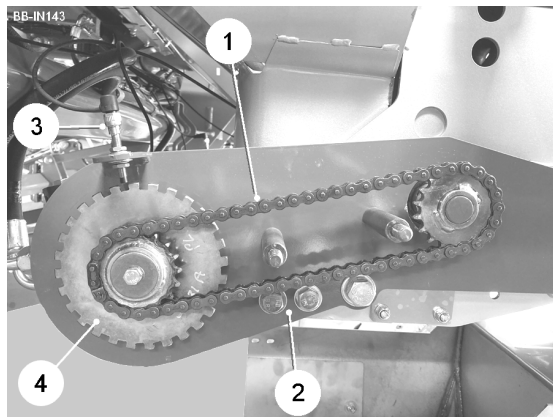

Fig. 22
The automatic space selector drive chain (item 1, fig. 22) is tensioned by loosening the hydraulic motor mounting bolts (x2) and then adjusting the motor adjuster screw (item 2, fig. 22) behind the plate to rotate the motor in the bottom slot. Finally, retighten the bolts.
The hydraulic space selector proximity sensors (item 3, fig. 22), one behind the motor guard (shown) and one behind the RH wheel leg guard, are activated by the teeth of the monitor wheels (item 4, fig. 22) passing in front of them. When activated, a red light appears on the sensor body. Should the sensor not activate, the gap between the sensor and the monitor wheel may need adjustment. A retaining nut holds the proximity sensor in position. The distance between the sensor and the monitor wheel can be adjusted by loosening the retaining nut and then moving the sensor closer or further from the monitor wheel. This setting should be approximately 1mm to 1.5mm. Do not overtighten. The proximity sensor must be centrally mounted over the monitor wheel.